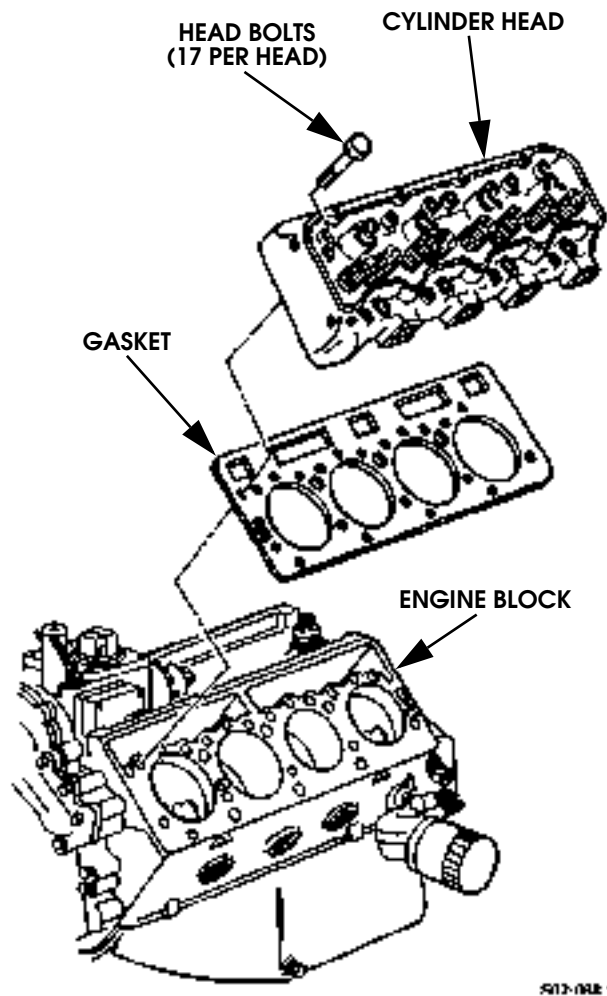

Figure 2-81: Cylinder Head and Gasket Removal
1. Remove cylinder head bolts (Figure 2-81).